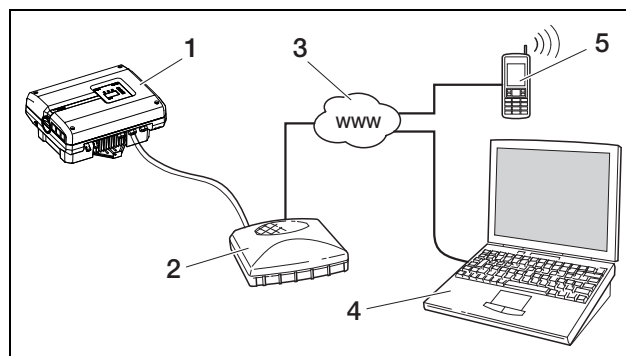

Fig. 25: Retrieving log data: Inverter connected to the Internet via DSL
- The inverter can then be accessed over the Internet under the domain name provided by the DynDNS service, and you can connect to the inverter with any Internet browser (see figure 25).